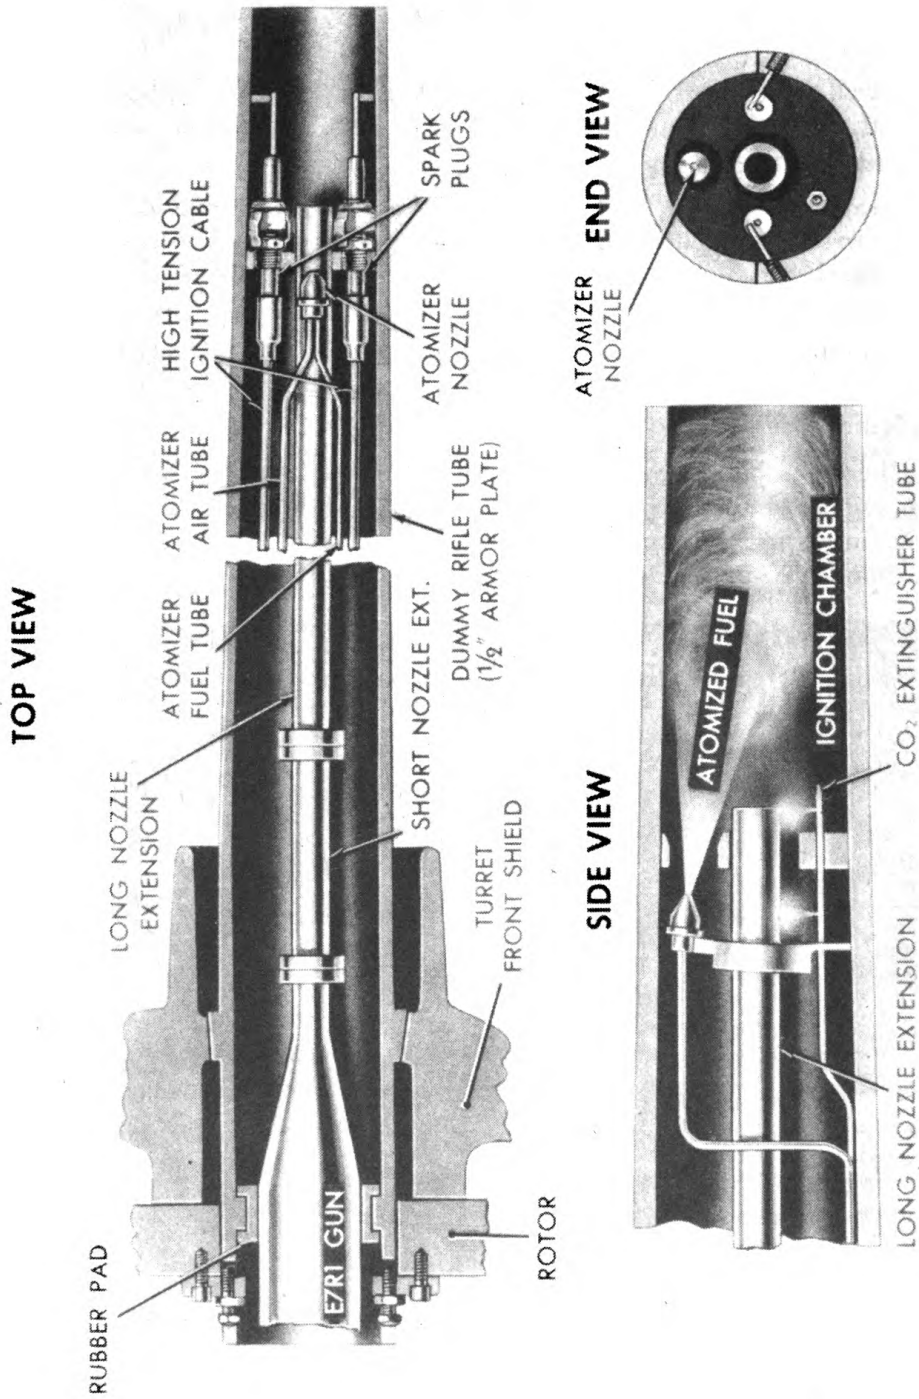

Figure 33—Ignition chamber at front of dummy 75-mm. rifle tube (schematic views).
b. Servicing ignition system (fig. 33). See Section XXIII before servicing for detailed information.
- (1) Remove special dummy 75-mm. rifle tube cover (par. 73).
- (2) Clean ignition chamber of any fuel residual or carbon which may be present.
- (3) Inspect spark plugs for cracks in insulation. Replace if insulation is cracked or plug is otherwise damaged.
- (4) Check and adjust gap between spark plugs and ground electrodes to more than $\frac{1}{16}$ -inch but not more than $\frac{1}{8}$ -inch maximum, and clean the ground electrodes.
- (5) Check position of fuel atomizer nozzle. Nozzle should be in line with hole in ballistic plate and should be $\frac{3}{4}$ -inch to 1-inch (preferably $\frac{3}{4}$ -in) behind rear edge of plate. Make sure nozzle tip and clamp are tight.
- (6) Inspect 7-mm. high tension ignition cables leading to spark plugs. Make sure that connections are tight and that insulation of 7-mm. high tension ignition cables is not damaged (par 70 b (3)).
- (7) Check carbon dioxide fire extinguisher ("muzzle snuffer") in ignition system to see that 4-pound bottle is full and that CO₂ is ejected properly through CO₂ line holes in front and in back of ballistic plate in special dummy 75-mm. rifle tube (par. 71, fig. 33).
f. Flame gun flange screws. Using proper size hex socket head screw wrenches, check all accessible hex socket head cap screws on the gun and nozzle flanges for tightness (fig. 33).